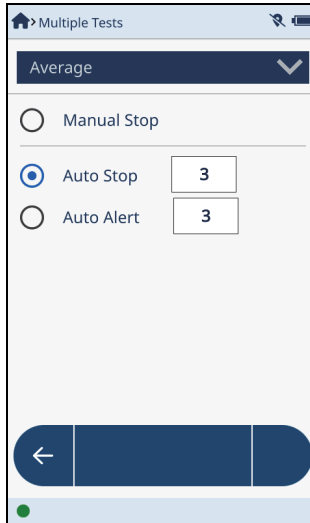

Figure 2-11 Average dialog box
1. In the **Average** dialog box, tap the **Auto Stop** button (see Figure 2-11 on page 32).
1. In the **Average** dialog box, tap the **Auto Alert** button (see Figure 2-11 on page 32).